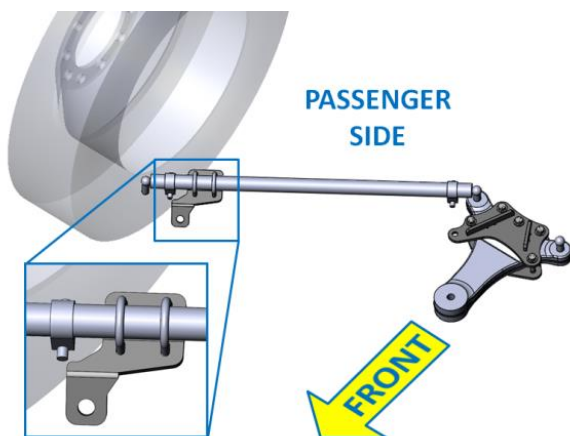

Figure 3
5. Loosely install USI-1014 on the end of the passenger tie rod using the 1-5/8" U-Bolt Kit (12-38-1525K). The bracket should be on the underside of the tie rod with the 3/4" bolt hole facing towards the front of the vehicle (Figure 3).
5. For the person outside of the vehicle, gain access to SAFE T PLUS[®] unit. Using a socket wrench with a 9/16-inch socket, and loosen **Flanged Lock Nuts** on Tie-Rod Bracket **U-Bolt** and allow the SAFE T PLUS[®] unit to freely move to its centered position. Once the SAFE T PLUS[®] unit rests at its centered position, using a torque wrench with a 9/16-inch socket, torque Tie-Rod Bracket **Flanged Lock Nuts** to **20 foot pounds** (*Figure 3*).
6. Repeat road test until vehicle is able to maintain a straight trajectory. If centering the SAFE T PLUS[®] unit requires more than 2 or 3 attempts, please contact our technical support team at (770) 322-8727 for further assistance.